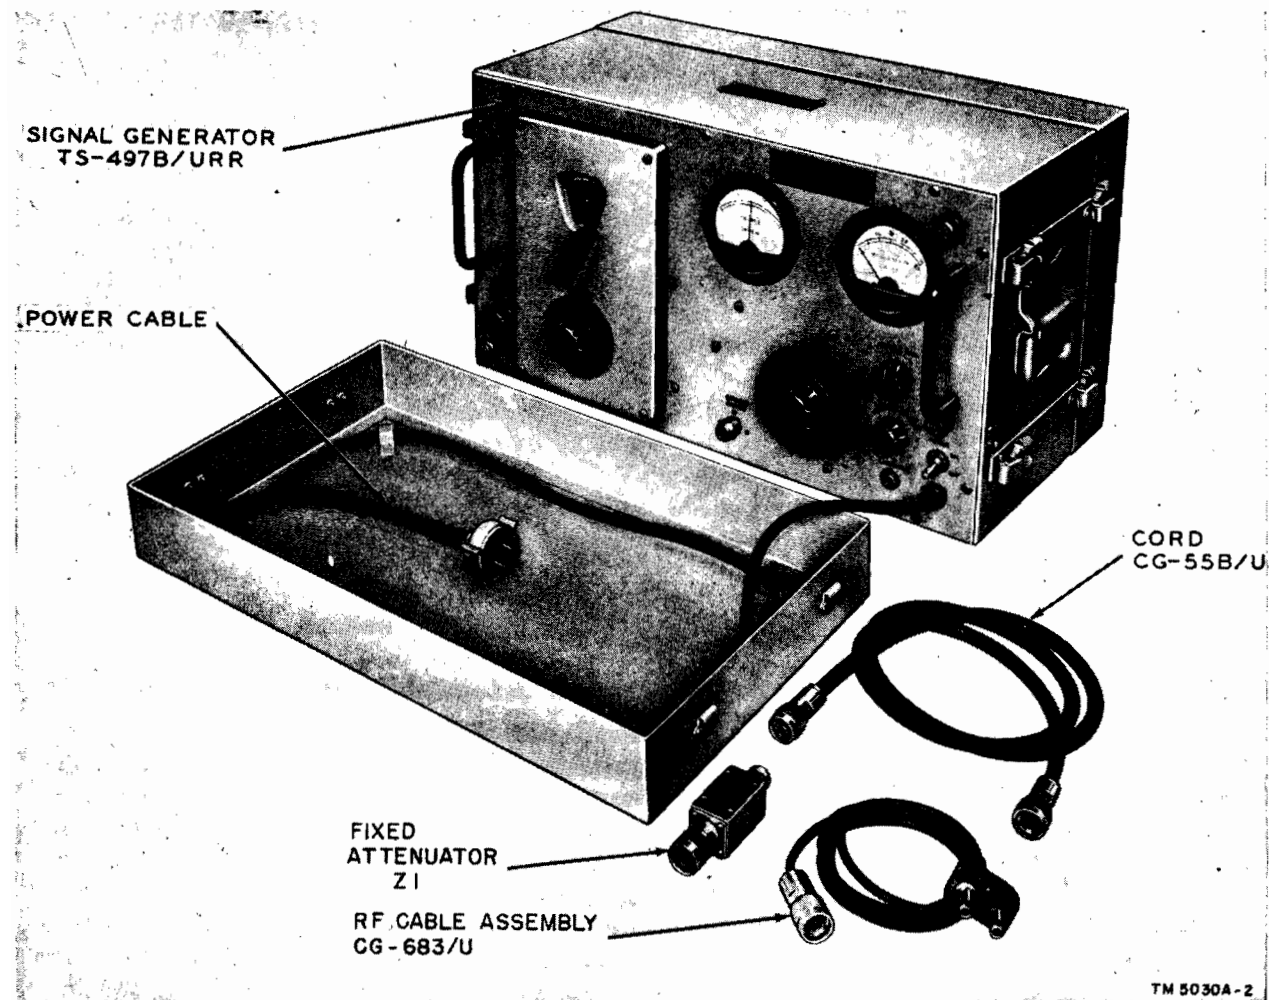

Figure 2. Signal Generator TS-497B/URR, front view.
b. All controls and assemblies of the signal generator are mounted on the front panel. The guard handles on each side of the front panel (fig. 2) provide means for removing the unit from the case and also serve as a protecting support for the meters and controls when the unit is rested on the front panel for servicing.
e. The following components are supplied with Signal Generator TS-497B/URR (fig. 2):
- (1) Cord CG-55B/U, consisting of a 4-foot length of Radio Frequency Cable RG-8A/U terminated with a Radio Frequency Plug UG-21B/U at each end.
- (2) RF Cable Assembly CG-683/U, consisting of a 4-foot length of Radio Frequency Cable RG-58C/U terminated